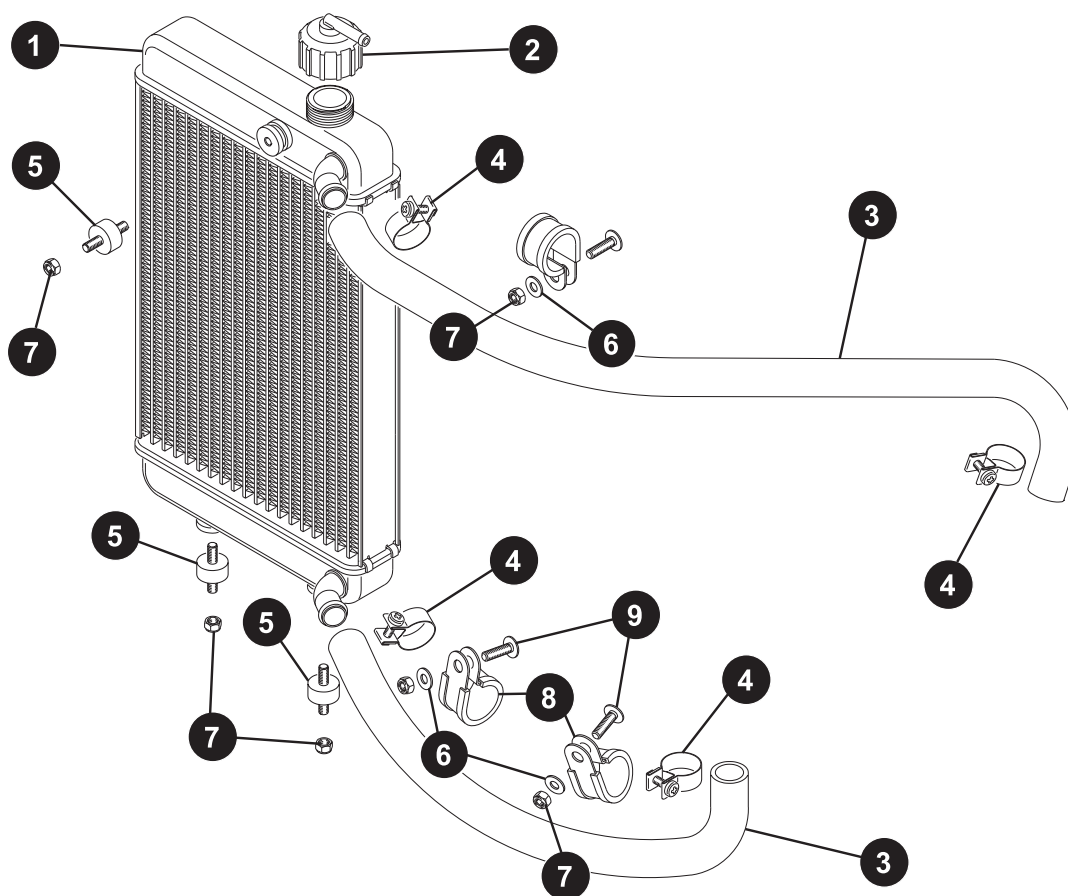

Fig. 105
- ⇒ Fit the 3 cable clamps (Item 8) over the radiator hoses, as shown in Fig. 105 - two below, one above - align and secure them and attach them with the screws (Item 9) to the frame.